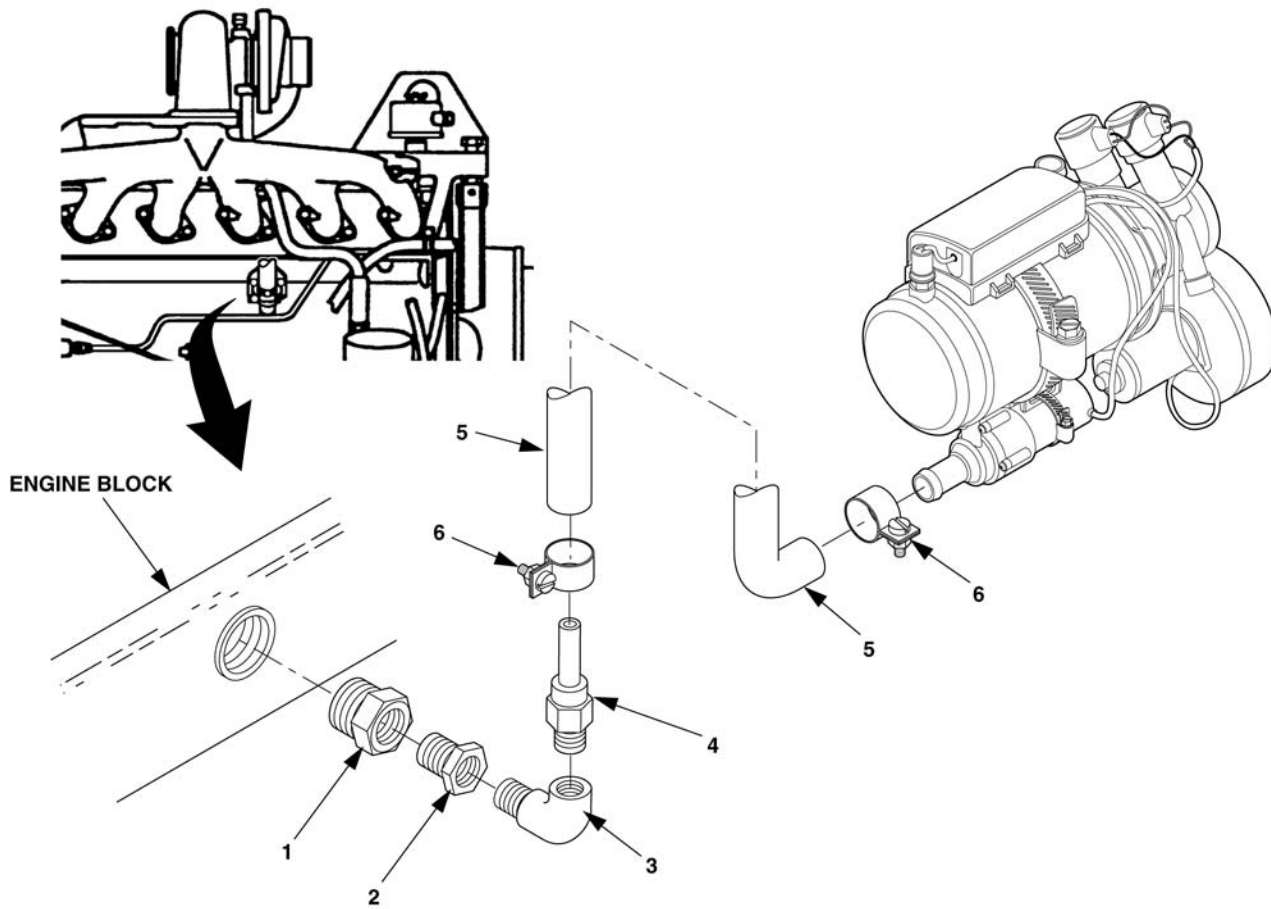

Figure 4-40. Coolant Inlet Hose Removal
9. Remove clamps (6), Figure 4-40, and coolant hose (5) from heater coolant pump. Remove adapter (1), bushing (2), and elbow °90 extension (3) from engine block and install new expansion plug in engine block hole.